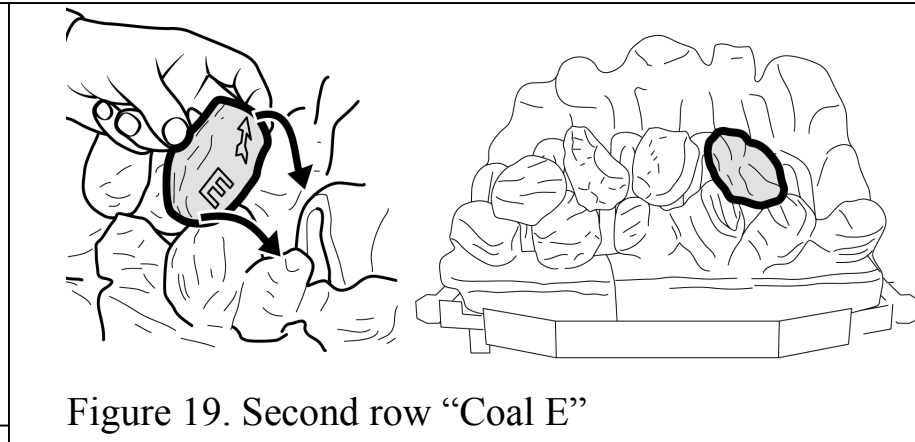

Figure 19. Second row "Coal E"
12. Hold coal 'E' upright with the arrow pointing to the top. Locate coal 'E' as shown in figure 19.